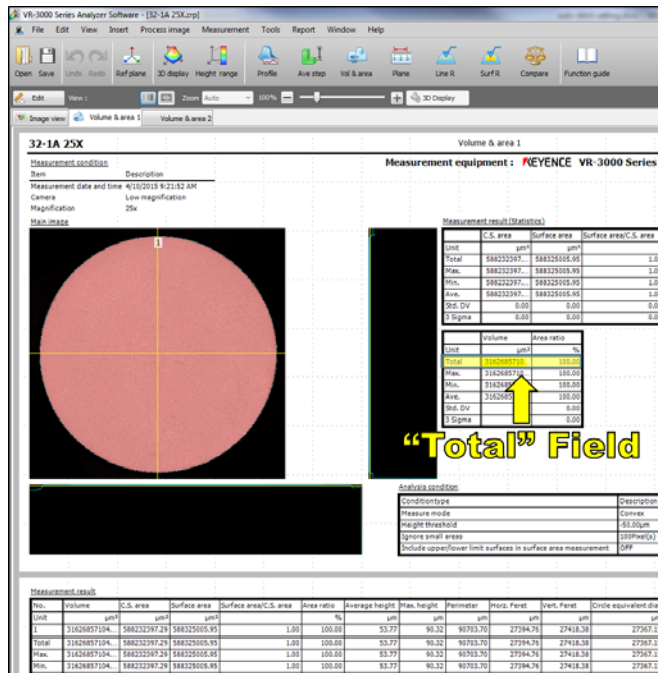

Figure 12 - Critical Data on Volume & Area 1 Tab
- 3.9.2. The volume data from the **Total** row of the *volume vs. area ratio* table (Figure 12) needs to be reported in the final test report as the pre-test volume.